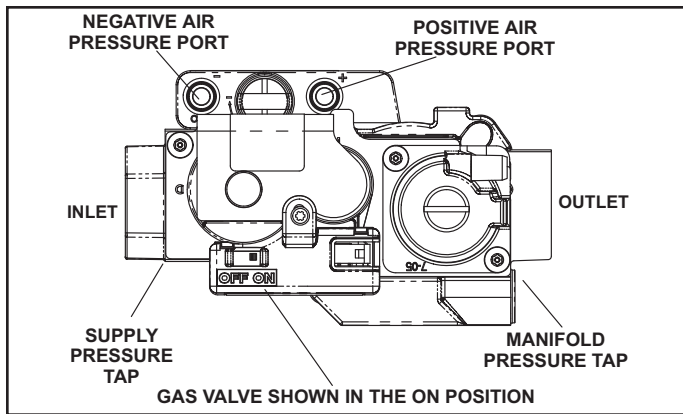

Figure 46. Gas Valve
See Figure 46
6. Move the gas valve switch to the OFF position. See Figure 46.
8. Move gas valve switch to the ON position. See Figure 46. DO NOT force.